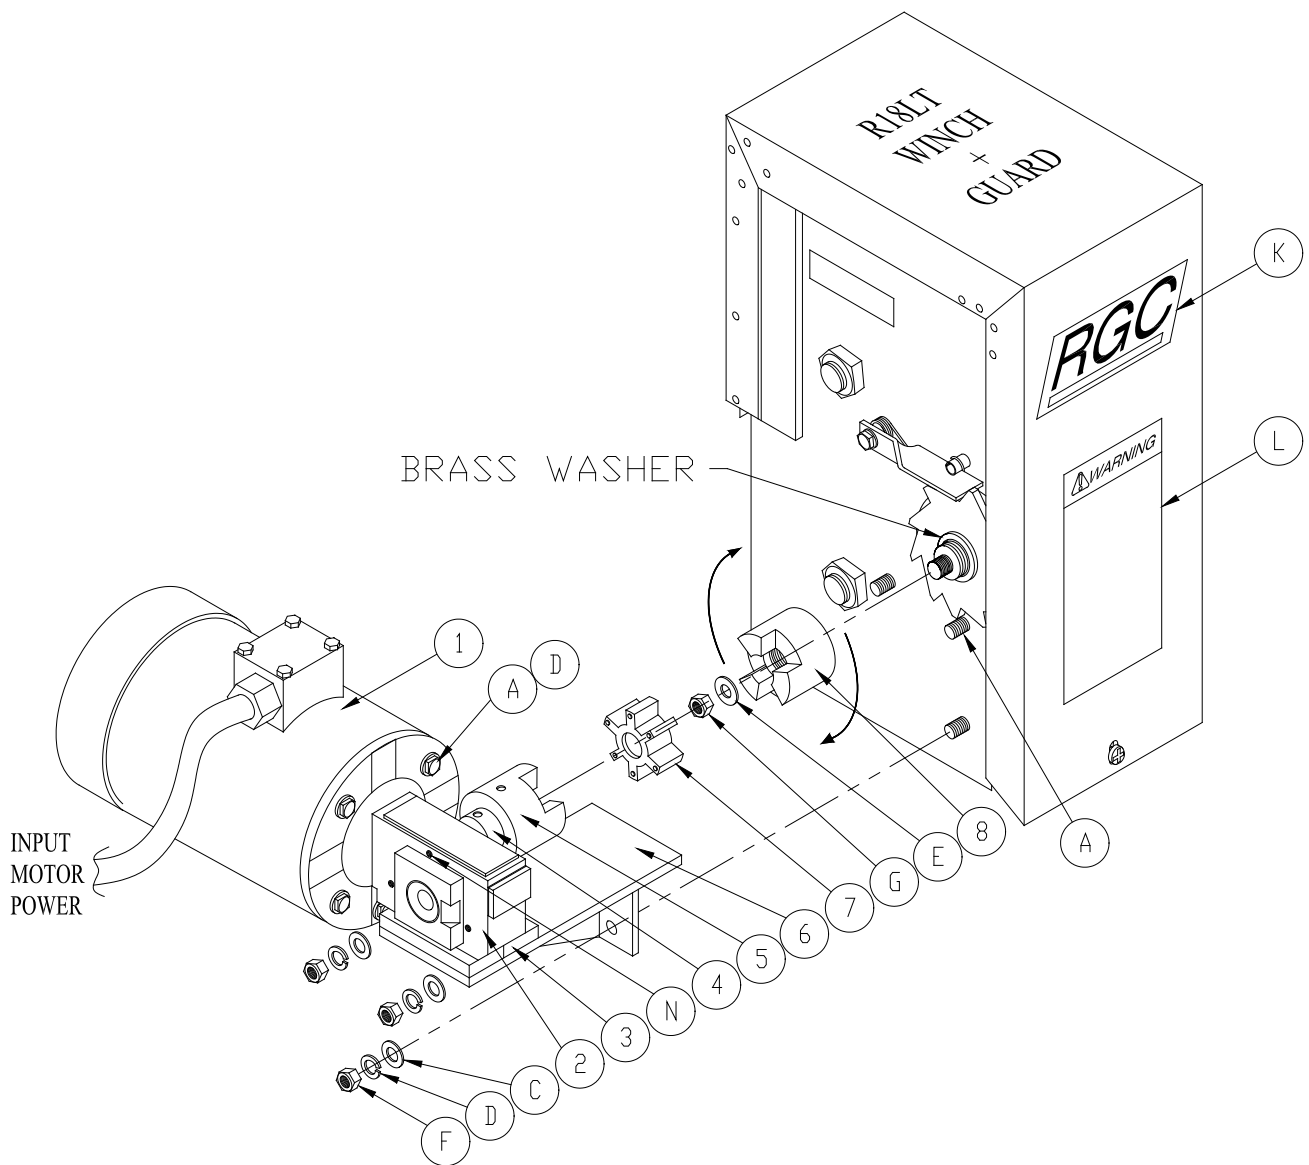

Figure 3-2
1. Refer to Figure 3-2, screw the acme coupler (8) clockwise onto the winch input shaft. The coupler must pinch the brass washer and brake sprocket tightly against the friction disk.
3. Install 1/2" washer (E) onto the end of the input shaft.
4. Install and securely fasten the 1/2"-20 locknut (G) onto input shaft. Tighten using a 3/4" socket/ratchet.
2. Refer to Figure 3-2, from the direct drive mounting bracket, remove the 3/8 X 1" bolt (A), nut (F), lock washer (D), and flat washer (C), save to reuse.
3. Remove from the winch the 3/8 nut (F), lock washer (D), and flat washer (C) off the 3/8 X 1" carriage bolt that is pressed into the winch wall and 3/8 X 6-1/2" bolt that holds the winch wall spacer. DO NOT remove either of these bolts.
7. Mount the direct drive assembly to the winch as shown. Install and hand tighten washer and nuts onto the winch supplied bolts. Install the 3/8 x 1" bolt (A), supplied with mounting bracket, from the inside of winch wall to outside of mounting bracket. Lightly fasten.